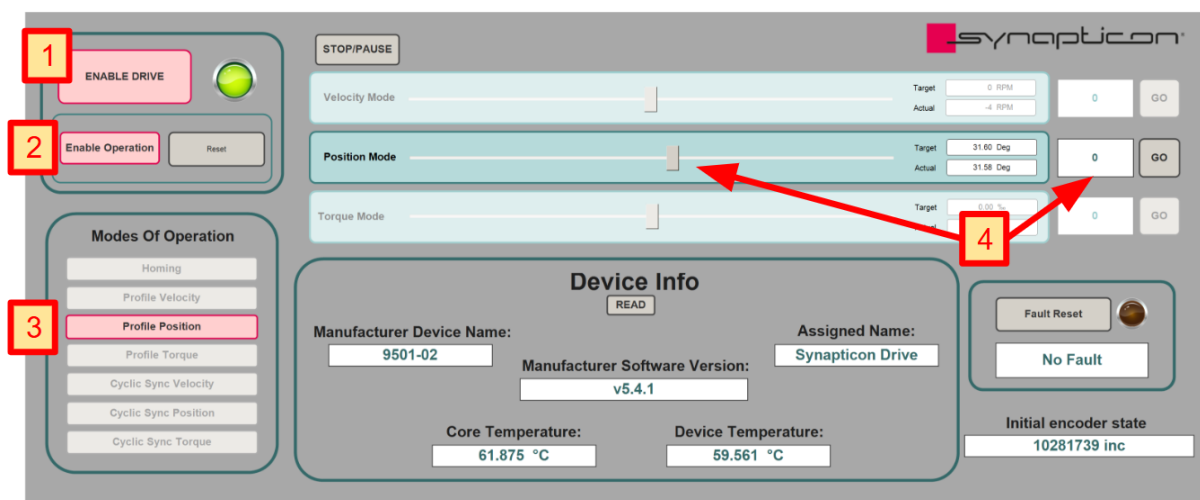

Figure 5.35 - Controlling the drive in profile position mode
5. Press the “GO” button. For clarification, refer to Figure 5.35.